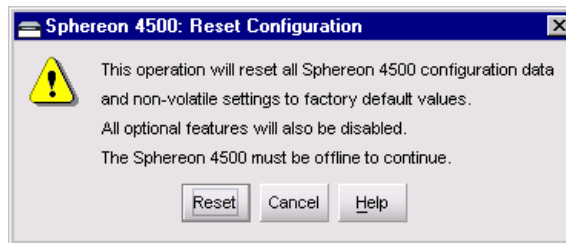

Figure 4-76 Reset Configuration Dialog Box
5. Select the *Reset Configuration* option from the *Maintenance* menu. The *Reset Configuration* dialog box displays (Figure 4-76).